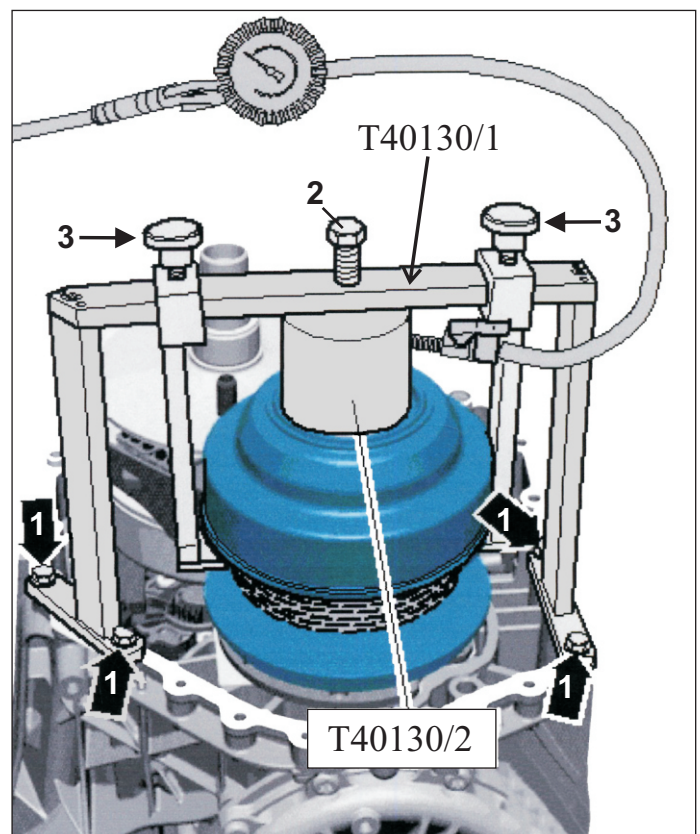

Figure 8
2. For the 34 mm chain, attach adapter tool number T40130/2 onto the output pulley set II as seen in figure 8. The O-rings inside the adapter tool and the sealing surfaces on the pulley set should be cleaned and lubricated with ATF.
4. Align and center the support bracket T40130/1 on the adapter as seen in figure 8. Once aligned, bolt the bracket down to the case (1).
5. Screw down the center bolt (2) on the bracket so that the center adapter is pressed up against pulley set II.
7. Slide the two arresters (3) into place where they secure the top side of the output pulley set II as seen in figure 8.